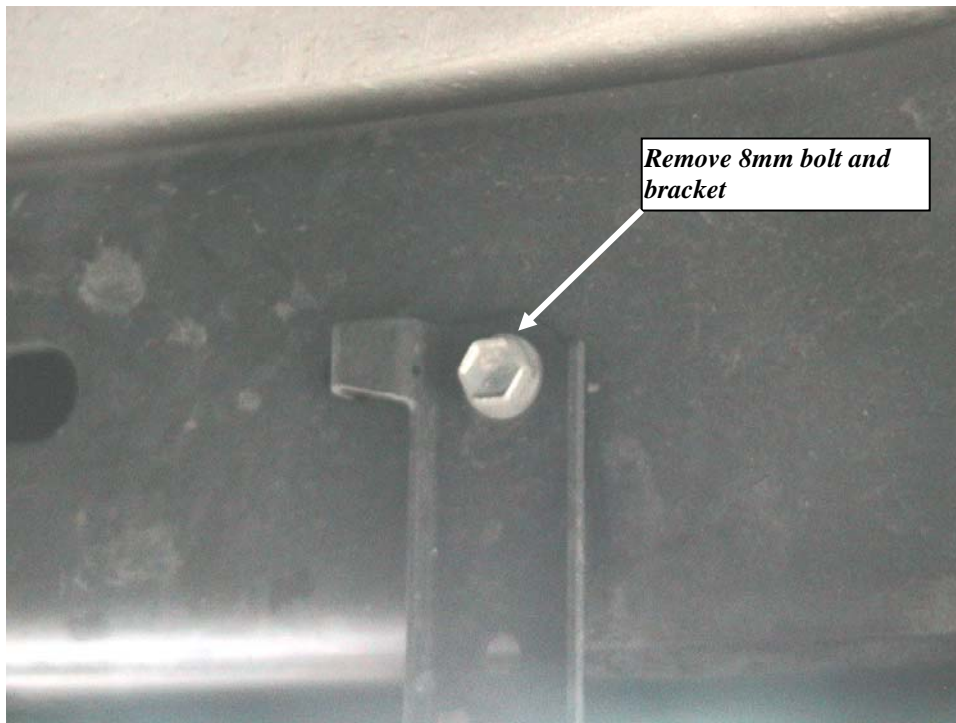

Figure 6 Remove bumper bracket. LH shown, RH similar
4. Remove 8mm bolts (12mm wrench) and inner bumper brackets from frame. **See Figure 6**